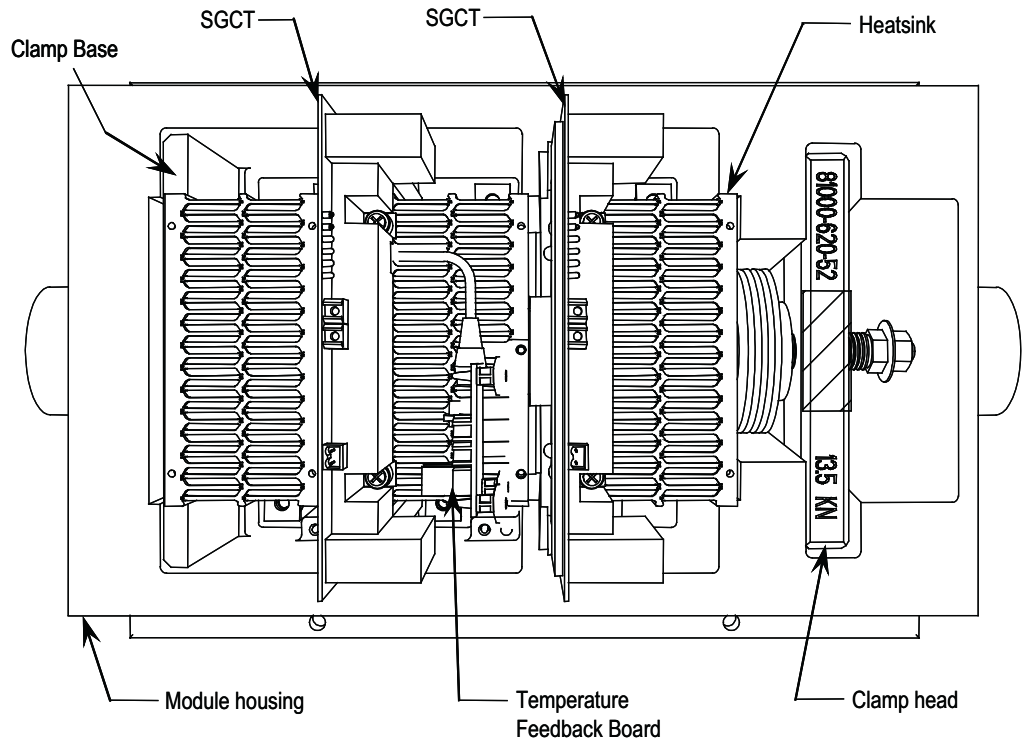
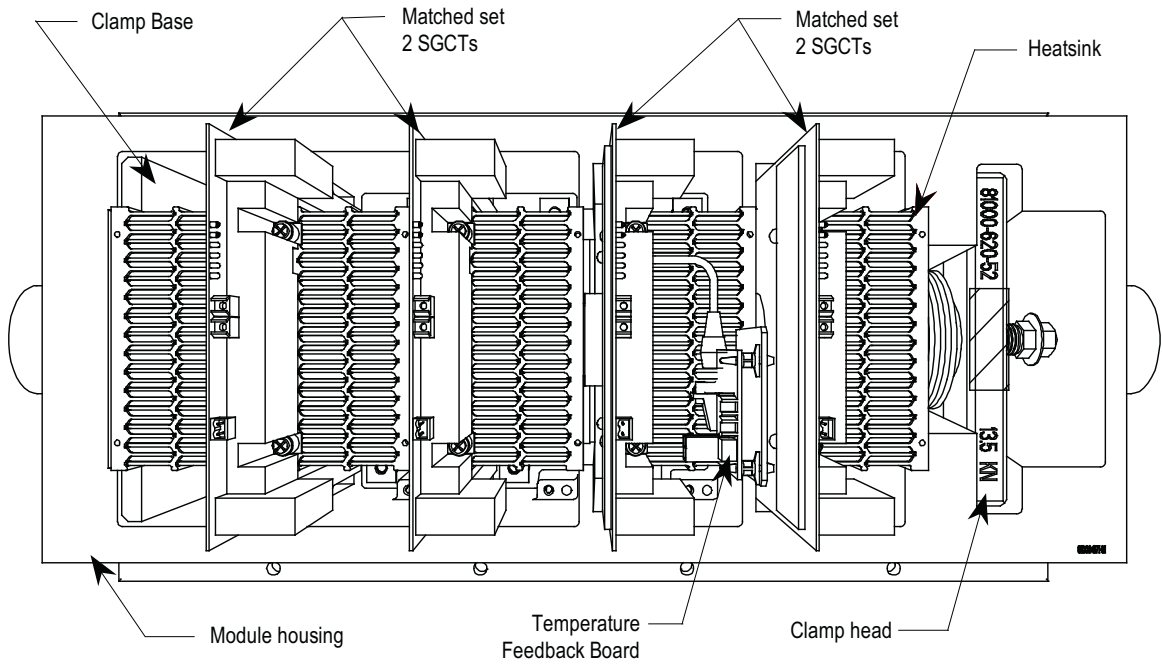
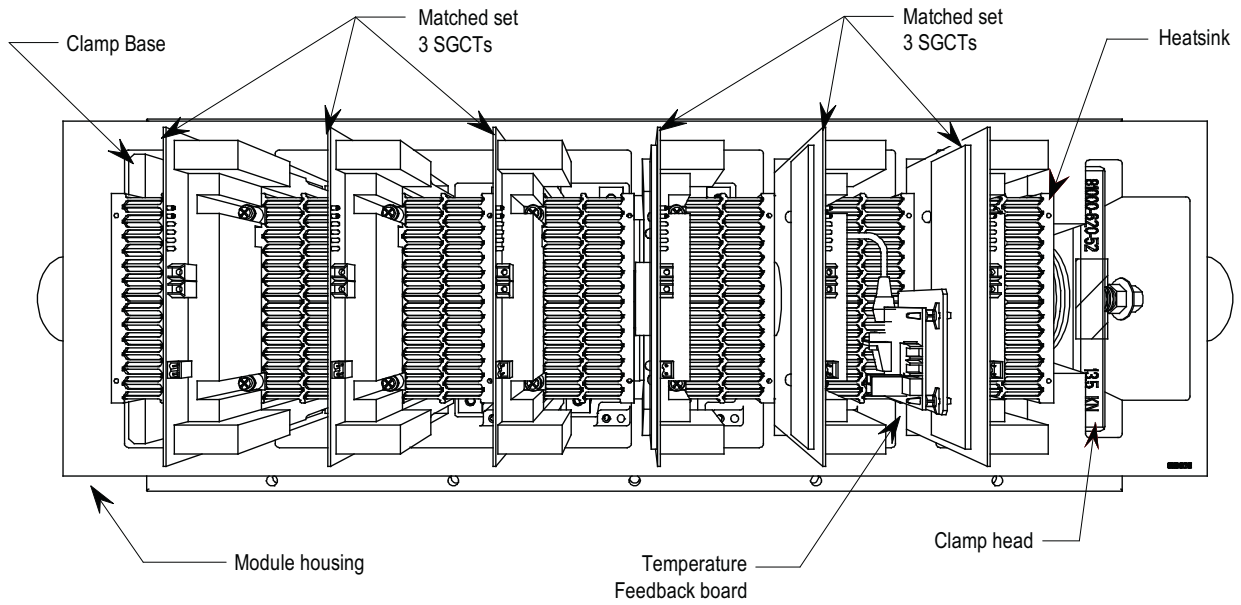

Figure 31 - 2 Device PowerCage
Figure 32 - 4 Device PowerCage (standard model)
Figure 34 - 6 Device PowerCage
3. Remove the device (SGCT or SCR) from the heatsink with the thermal sensor (refer to Figure 31, Figure 32, or Figure 34 on page 50).